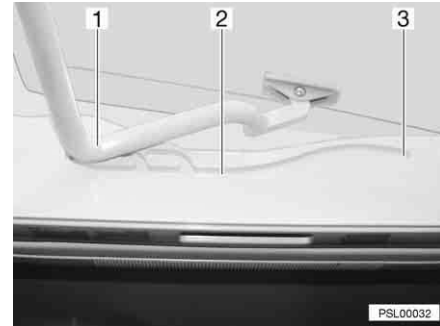

Fig. 18 Hinged skylight, guide
- Pull the bar (Fig. 18,1) in the guides (Fig. 18,2) to the rearmost position (Fig. 18,3).
- Use both hands to push the bar (Fig. 18,1) slightly upwards.
- Pull the bar in the guides (Fig. 18,2) to the desired position.